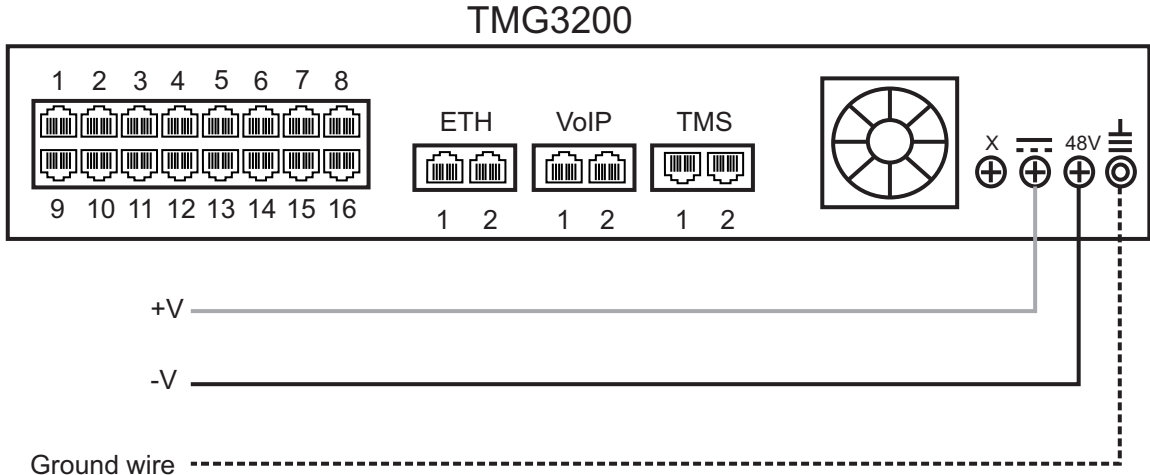

Figure 2.10 TMG3201 DC wiring diagram
1. Connect a ground wire to the ground lug located at the rear of the TMG3201, as shown in figure 2.10 on page 21.